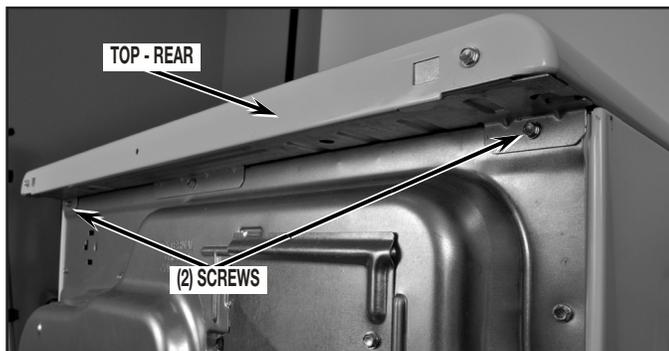

FIGURE 1
5. Remove dryer top by first removing the two (2) screws from the rear of the dryer. See *Figure 1*.